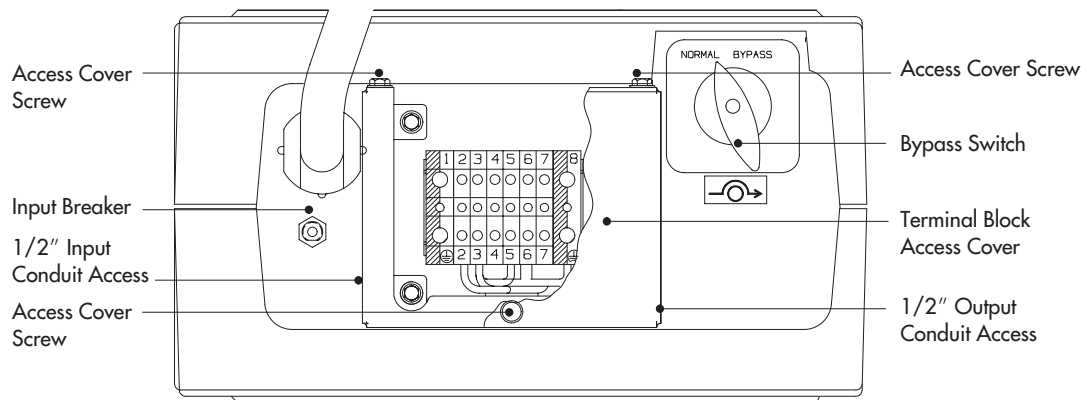
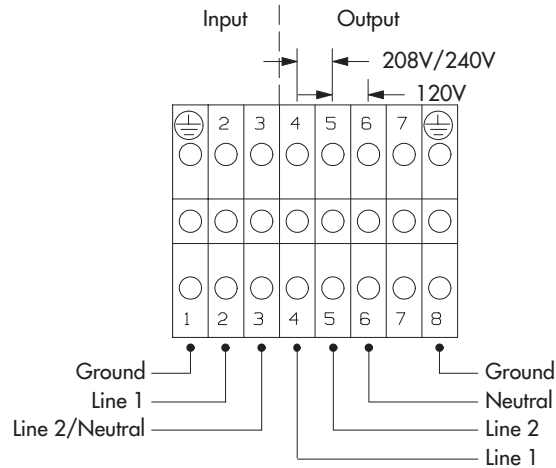
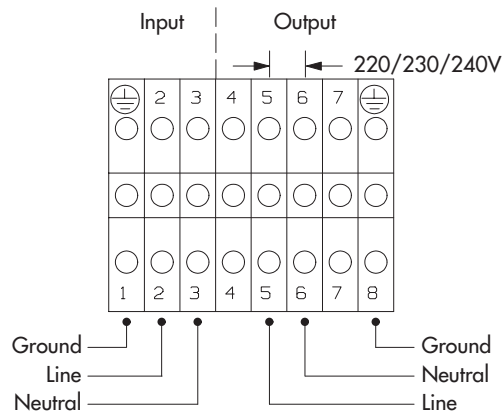

Figure 7. UPS with Hardwired Bypass Module Rear Panel
Figure 8. 60-Hz Hardwired BDM Terminal Block
Figure 9. 50-Hz Hardwired BIM Terminal Block
- 20** Remove the three screws on the terminal block access cover with a Phillips screwdriver and remove the cover (see Figure 7).
- 21** Connect standard half-inch conduit through the terminal access box (see Figure 7) and hardwire to the terminal block. See Figure 8 for the 60-Hz hardwired BDM wiring or Figure 9 for the 50-Hz hardwired BIM wiring.